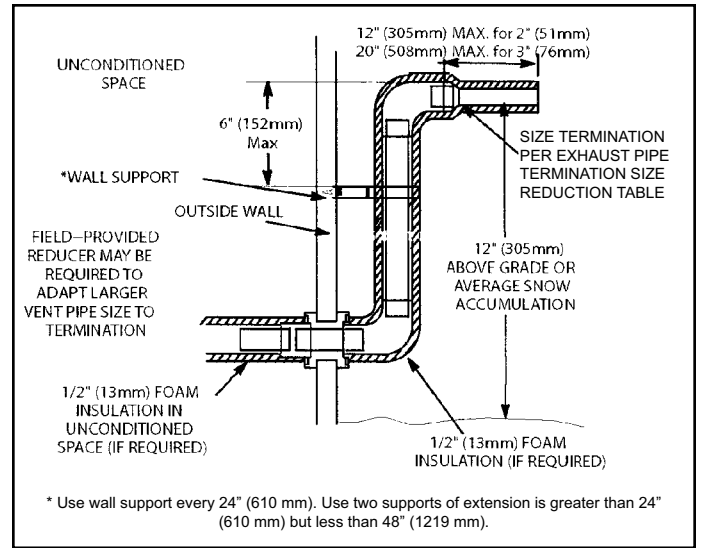

Figure 42. Non-Direct Vent Field Supplied Wall Termination Extended
3. If exhaust piping must be run up a sidewall to position above snow accumulation or other obstructions, piping must be supported every 24" (610 mm) as shown in Figure 42. When exhaust piping must be run up an outside wall, any reduction in exhaust pipe size must be done after the final elbow.